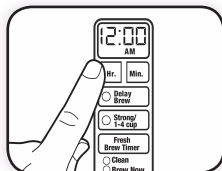

Figure 5
- 2 To change the time, press the Hour and Minute buttons until you reach the current time. (Figure 5)